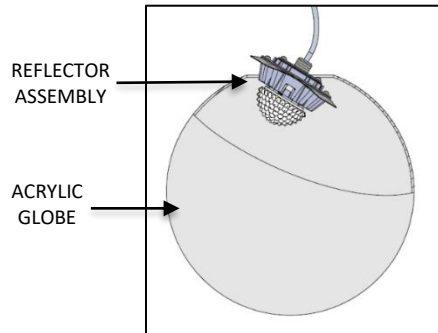

FIG. 23 – ACRYLIC GLOBE
14. Tilt and insert the REFLECTOR ASSEMBLY through the ACRYLIC GLOBE as shown in FIG. 23.